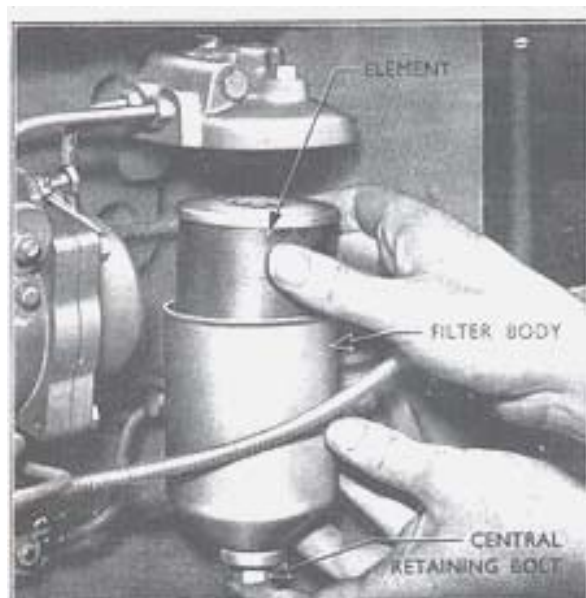

Fig. 2
1. Unscrew the centre bolt from the filter, remove the filter body and discard the element (see Fig. 2). Using a brush and clean fuel oil, thoroughly clean the interior of the filter body. **On no account use rag for this operation.**